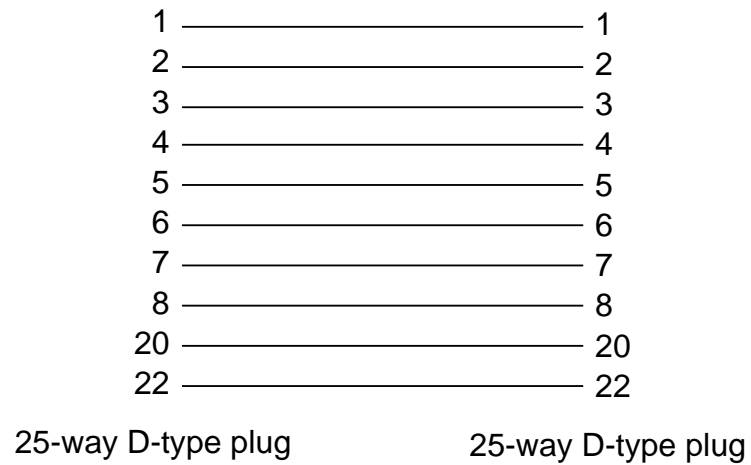

Figure C-5 NMS/Printer Cable
The cable used for linking a Network Management System (PC) or Printer to a port is shown in Figure C-5.